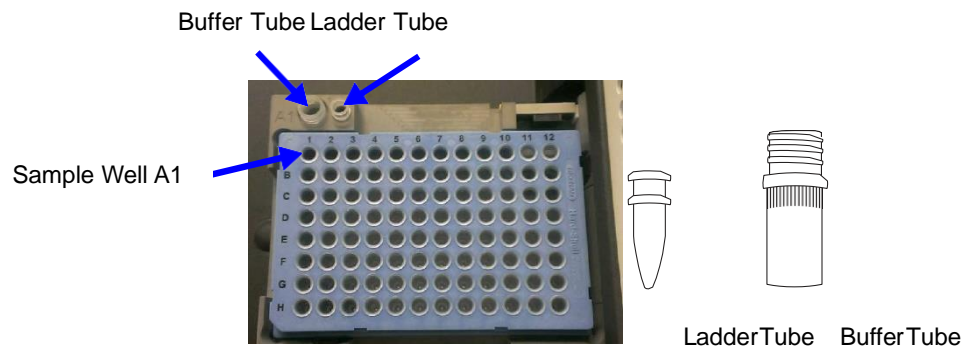

Figure 5. Locations of the Buffer Tube and Ladder Tube in the LabChip GX Touch /GXII Touch instrument
- e Insert the Ladder Tube into the LabChip GX Touch /GXII Touch instrument as shown below (Figure 5).